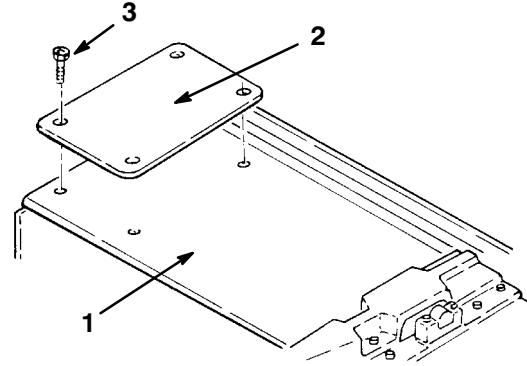

Figure 2
- On the #2 and #3 cutting units, remove 4 cover capscrews located at the outside end of the cutting unit drive housing. Discard cover screws. Mount a tipper plate to front left-hand (#2) cutting unit and the front right-hand (#3) cutting unit using flathead socket screws and locknuts supplied with tipper plates (Fig. 2).
- On the #4 and #5 cutting units, remove 4 cover capscrews located at the outside end of the cutting unit drive housing. Discard cover screws. Tipper brackets will be mounted at these locations after the #4 and #5 cutting units are mounted on lift arms (Fig. 2).